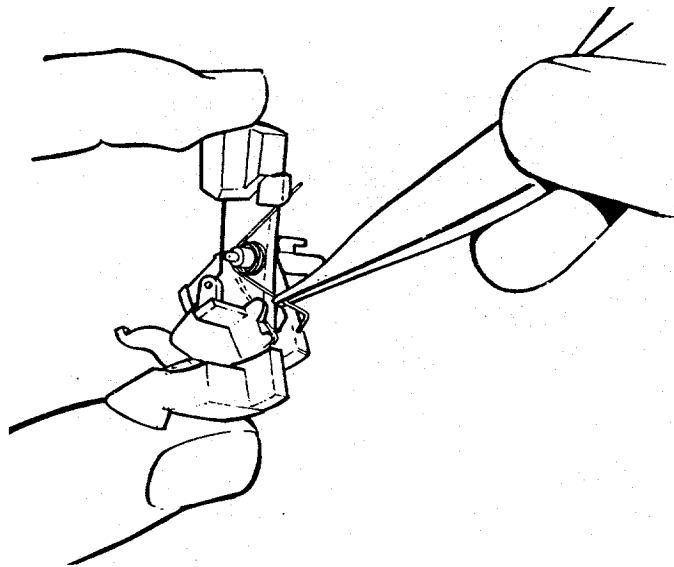

Fig. 32 Reassembling Inertia, Walking Beam & Spring
36. Mate the Inertia and Walking Beam together and install the Inertia Spring as shown in Fig. 32. Check that both parts pivot smoothly and are returned by spring action.